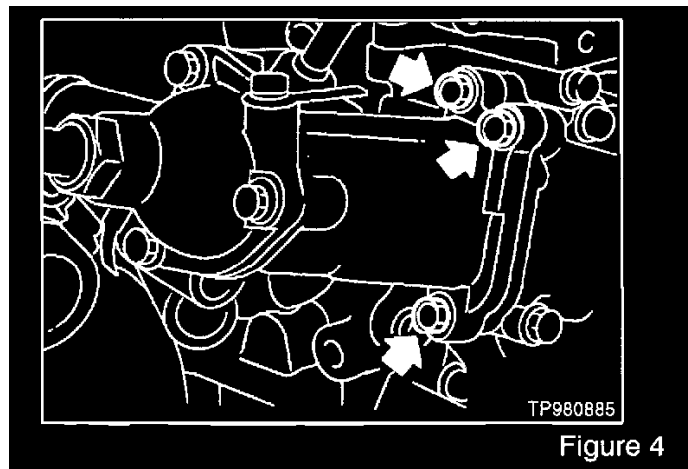

Figure 4
19. Remove the thermostat housing (See Figure 4).